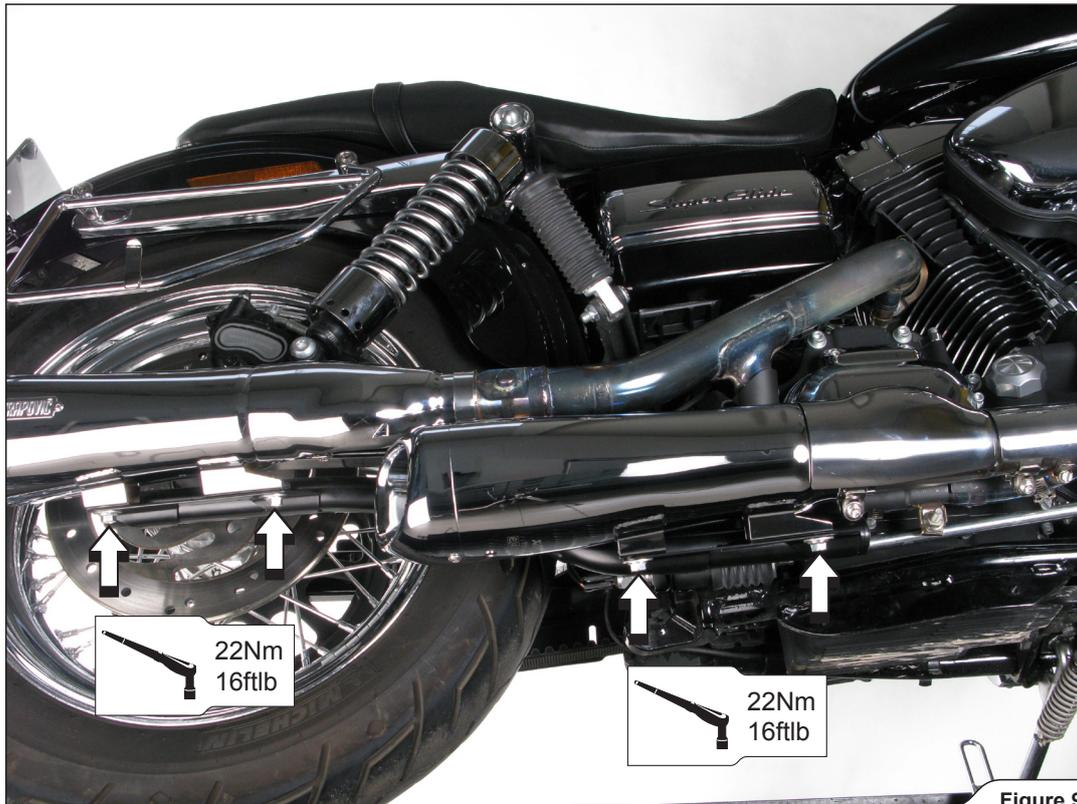

Figure 9
- Slide the assembled mufflers onto the original headers; rotate the bottom eccentric link pipe, till maximum ground clearance is achieved, align the mufflers and tighten them onto the bracket (Figure 9).